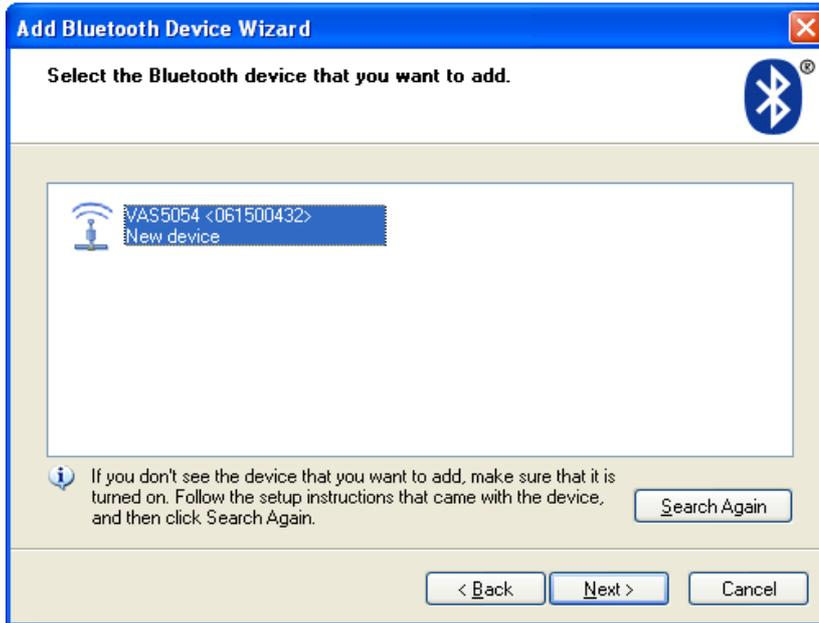

Fig. 3-5 Finding Bluetooth devices
2. The wizard scans the range for Bluetooth devices and displays the devices found (Fig. 3-5). Select your VAS 5054A and click **Next>**.